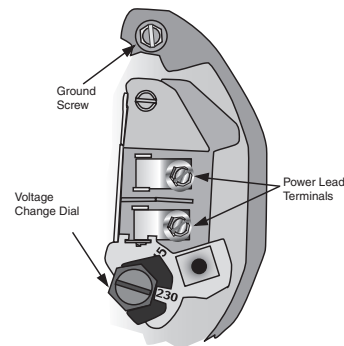

Figure 8: Voltage set to 230 volts, Dial Type
5. If your motor's configuration matches the **dial type voltage selector** in Figure 8, turn the dial counter-clockwise until 115 shows in the dial window.